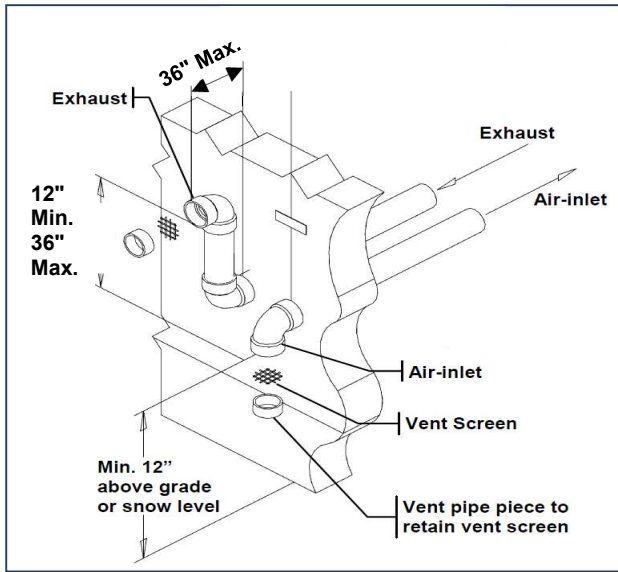

Figure 11.14
3. When using two pipe terminations the air intake piping must terminate in a down-turned 90 degree elbow as shown in Figure 11.14 or 11.16. This arrangement avoids recirculation of flue products into the combustion air stream
4. The exhaust piping must terminate horizontally in a section of straight pipe or an elbow pointed outward or away from the air inlet, as shown in Figure 11.14 or 11.16
Do not extend the vent pipe outside the sidewall beyond the dimensions shown in Figures 11.14, 11.15, 11.16, 11.18, 11.19 and 11.20. Extended exposure of the vent pipe could cause condensate to freeze and block the vent pipe, resulting in substantial property damage, serious injury, or death